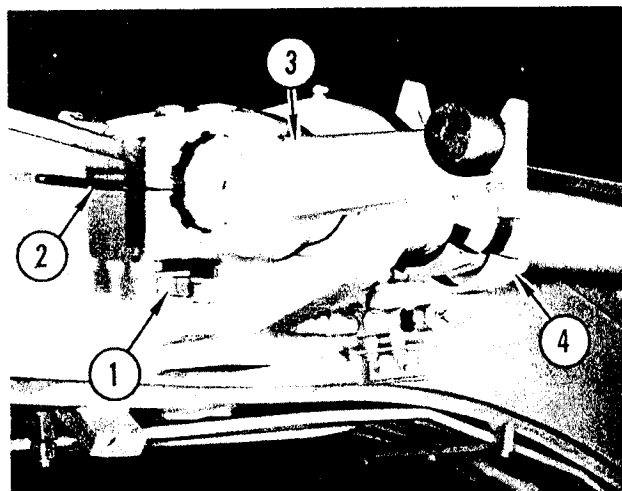

FIGURE 2. LIFT ARM REMOVAL
Refer to Figure 2. Loosen nuts (1) on clamping bolts. Drive chisel (2) into slot of lift arm (3) hub to open bore of hub. Remove lift arm by sliding it off end of shaft. Remove clamping bolts from blade lift limit valve actuator arms (4) and remove actuator arms (4) from lift shaft.